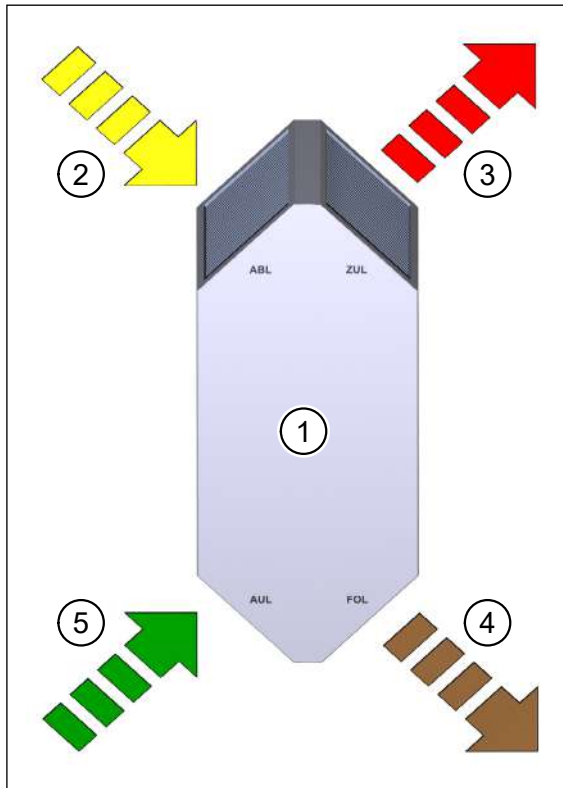

Fig. 10: How the cross-counterflow plate heat exchanger works
The channels on the cross-counterflow plate heat exchanger (item 1 in Fig. 10) are designed so that the air flows move in opposite directions. This guarantees the greatest possible exchange of thermal energy.
In the winter, the highly thermally conductive plates transfer the heat from the extract air flow (item 2 in Fig. 10) to the supply air flow (item 3 in Fig. 10). The cooled extract air is carried to the outside as exhaust air (item 4 in Fig. 10). In the summer, this is reversed; the warmer, incoming air is cooled.